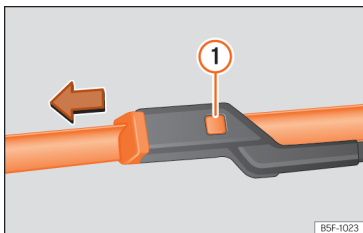

Fig. 214 Changing the windscreen wiper blades
- Press and hold release button >>> **Fig. 214 ①** and pull gently on the wiper blade in the direction of the arrow.